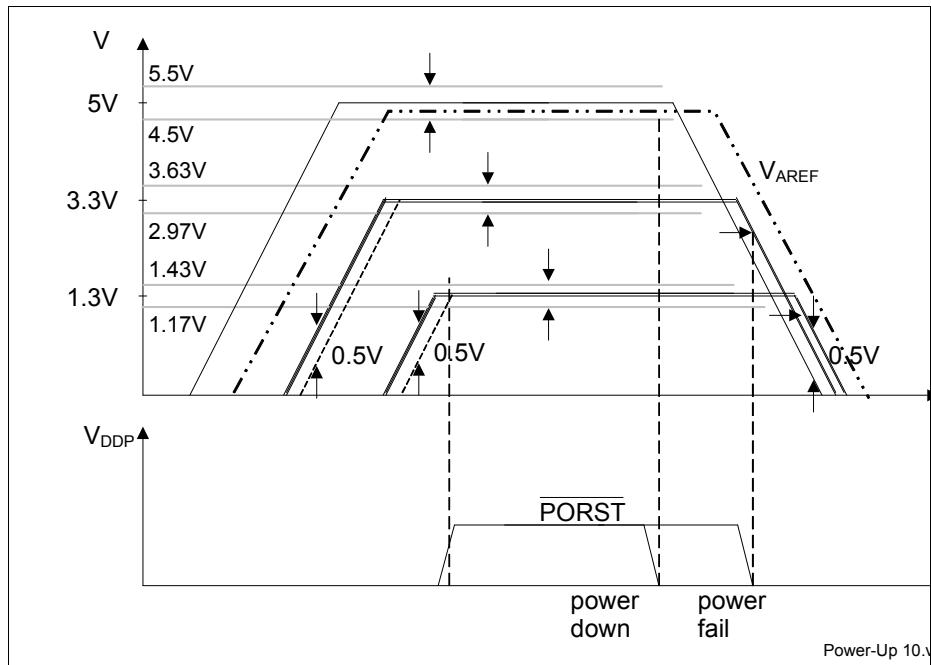

Figure 15 5 V / 3.3 V / 1.3 V Power-Up/Down Sequence
- At any moment in time to avoid increased latch-up risk, each power supply must be higher than any lower_power_supply - 0.5 V, or: $VDD5 > VDDP - 0.5 V$; $VDD5 > VDD - 0.5 V$; $VDDP > VDD - 0.5 V$, see Figure 15.